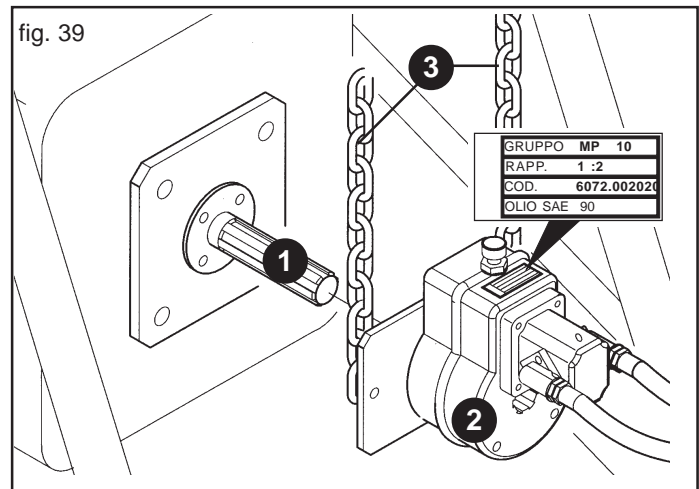

fig. 39
Clean and grease the tractor power take-off. (1, Fig. 39).
Connect the multiplier (2) to the machinery power take-off as shown in Figure 39.